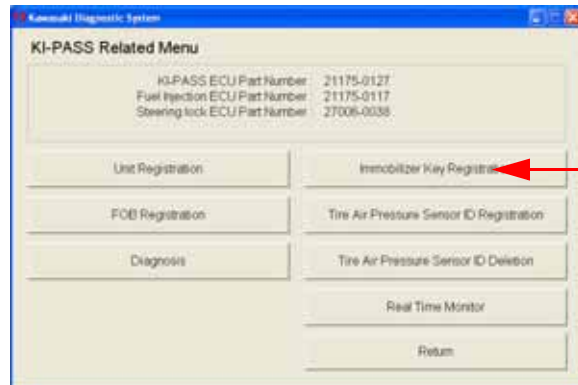

Fig. 5-38 KI-PASS Related Menu
- o Select **Immobilizer Key Registration** on the KI-PASS Related Menu (Fig. 5-38).